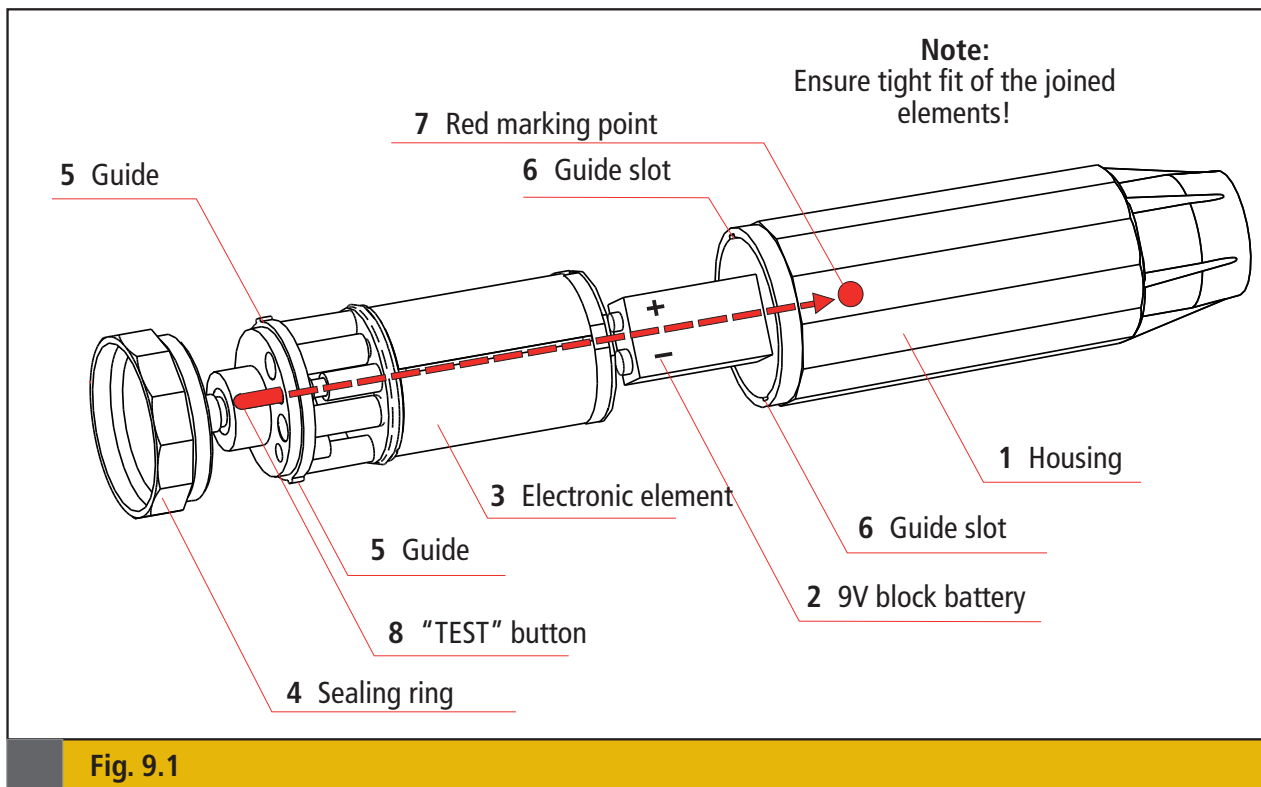

Fig. 9.1
9.1 Battery replacement (see Fig. 9.1)
9.2 Open the housing (1) by turning the sealing ring (4) on the lower end of the indicator counterclockwise (the insulating stick does not have to be removed) (see Fig. 9.1).
9.3 Pull the electronic element (3) out of the housing (see Fig. 9.1).
- 9.6 Re-assemble in reverse order. When inserting the electronic element (3) ensure that the red "TEST" button (8) and the red marking point (7) are in line (see arrow in Fig. 9.1). Both guides (5) must engage with the guide slots (6). After inserting the electronic element (3), the sealing ring (4) must be fully screwed to the housing (1) (see Fig. 9.1, page 16).
The assembly of the electronic element and the housing re-establishes the electronic connection between the electronics and the test prod (see Fig. 9.1, page 16) (connection socket in the upper end of the electronic element and contact pin in the housing bottom). Therefore assemble the elements carefully without using excessive force.